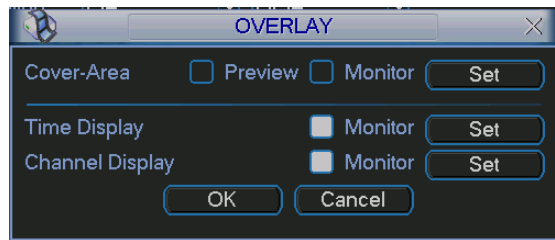

Figure 5-7
- Overlay: Click overlay button, you can see an interface is shown in _Figure 5-7